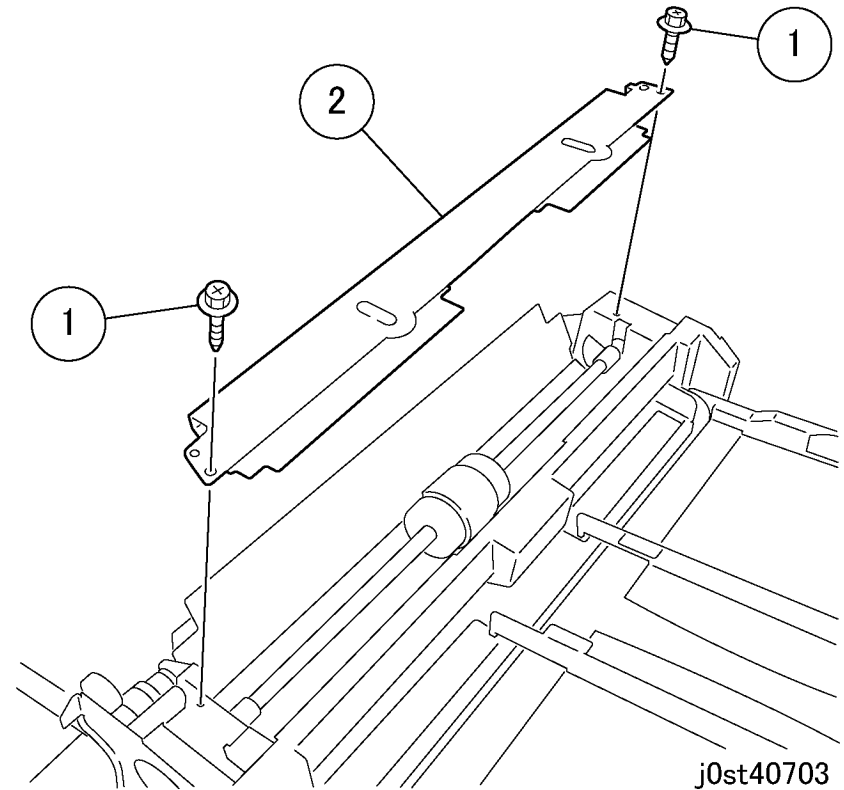

Figure 1 Removing the plate (j0st40703)
2. Remove the plate. (Figure 1)